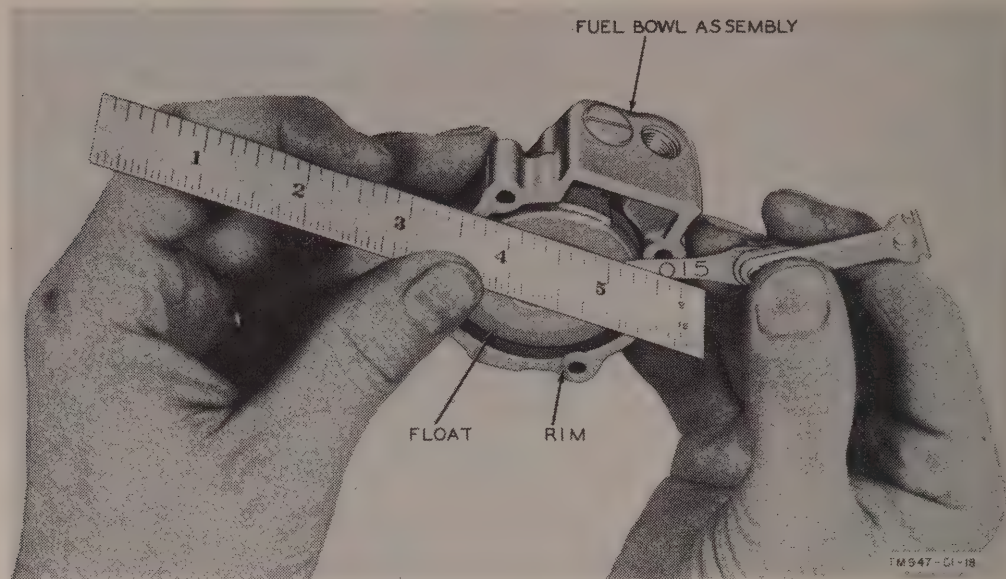

Figure 23.1. Power Unit PE-210-B, carburetor float lever adjustment.
a. Insert the throttle shaft (34) in the upper carburetor body and attach the throttle shutter (36) to the shaft with the screw(37).
b. Install the main nozzle (32) and the channel plug screw (33) in the upper body (1).
c. Install the idle tube and gasket (22 and 23). Place the idle adjustment retaining spring (21) on the idle adjustment screw (20) and install the assembly in the upper body.
d. Install the inlet needle and seat with gasket (25) in the fuel bowl and replace the large plug screw (19).
e. Set the float (14) in the fuel bowl. Make sure that the tangs of the float pivot arm straddle the inlet needle in the groove at its outer end. Insert the float pin (15) through the fuel bowl and float pivot.
(1) With the float and inlet needle installed in the fuel bowl, hold the assembly upside down (fig. 23.1).
(2) Place the straight edge of a steel scale across the lowest projecting point of the float at the free end of the float.
(3) Be careful not to lift the float and insert a .015-inch thickness gage between the edge of the steel scale and the rim of the fuel bowl. The gage should just fit between the edge of the bowl and the edge of the scale.
(4) If adjustment is necessary, remove the float and bend the arm of the float lever, that engages the inlet needle, very slightly until the proper measurement is obtained.